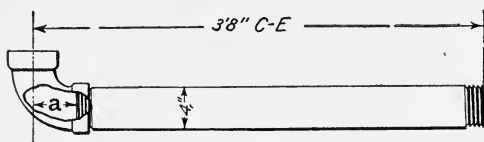

Fig. 100
**Center-to-End Measurements.**—Center-to-end measurements are shown in Fig. 100, and are abbreviated C-E. In this case the dimension is taken from the center of the fitting to the end of the pipe and would shorten the actual length of pipe to 3 feet 8 inches minus  $a$ , the distance from